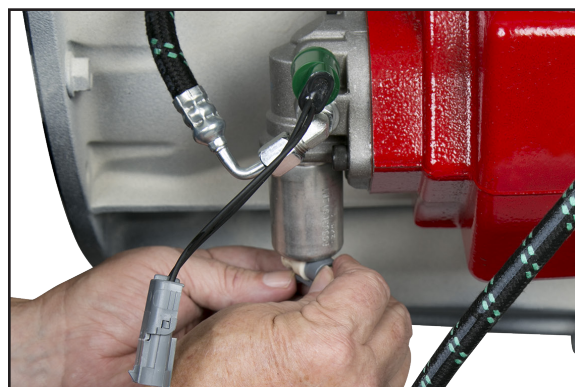
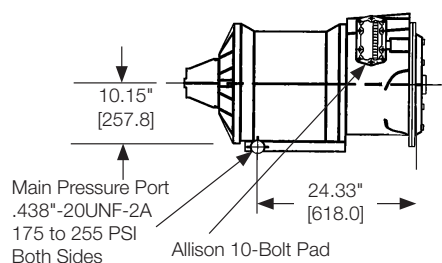

Figure 28
Figure 29
12. Complete the assembly by installing the electrical connection to the valve assembly (**Fig. 28**) and the pressure switch (379502) (**Fig. 29**). Not available for the 288 Series Installations.
CAUTION: If not installing direct mount pump at this time install gasket, cover plate and bolts to Wet Spline output option to prevent transmission fluid from leaking out of PTO flange if truck engine is turned ON (See **Fig. 29** on page 17).